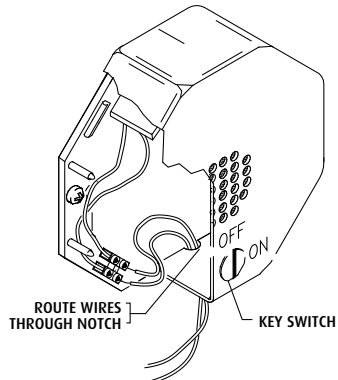

Figure 5
3. Connect first reed switch in RS1 and second in RS2 (Fig. 5). (Refer to Fig. 1 for additional details.)
3. Connect two conductor wire (14-24 AWG) from main unit terminal block pins COM and NO to remote horn unit terminal block (wire not provided). Units can be set up to 300 ft. apart. Not polarity sensitive (refer to Fig. 1 and Fig. 5 for details).